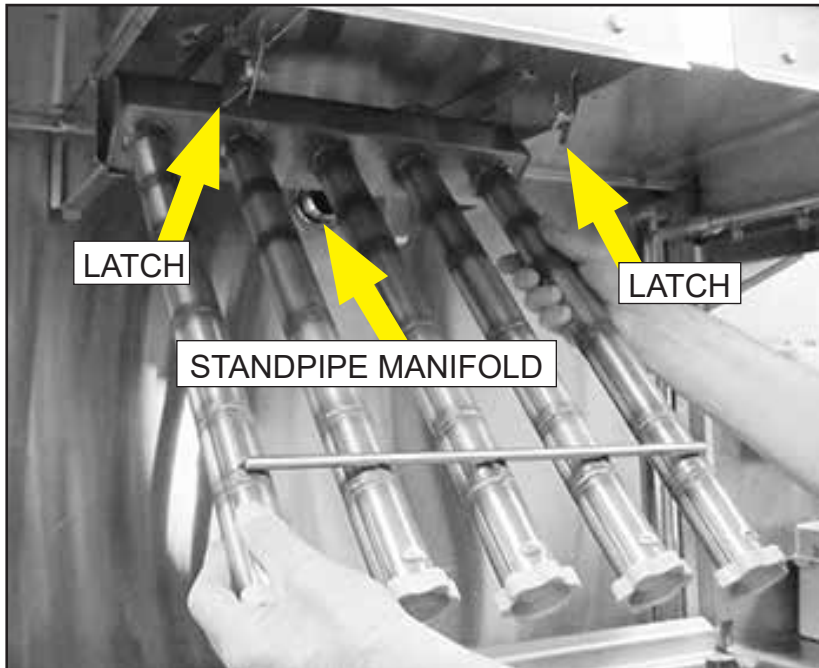

Fig. 6
- 1** Slide upper spray arm on the tracks until it seats into the standpipe manifold, then push spray arm up until it latches in place, Fig. 6.